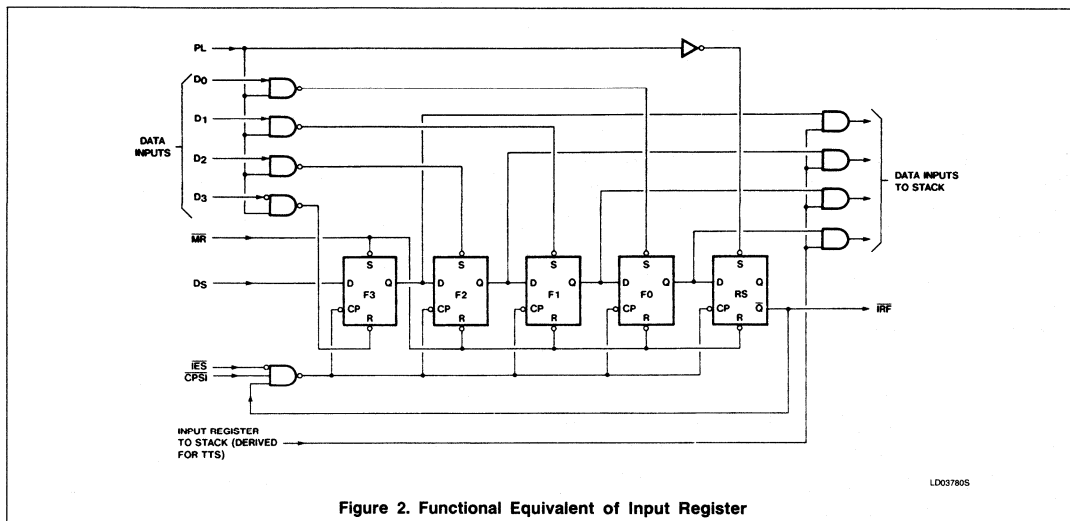

Figure 2. Functional Equivalent of Input Register
Data can be entered serially or, using the parallel mode of operation, data is entered in 4-bit increments. In either case, the data is subsequently transferred to the fall-through stack; the functional equivalent of this register is shown in Figure 2. The Input Register Full (IRF) status signal is internally generated by the Register Status (RS) flip-flop; when initialized, the Q output of this flip-flop is high.
When PL is high and CPSI is low (Figure 2), flip-flops F0 – F3 are loaded with data and IRF is forced low. This condition remains until current data is transferred to the stack. Once the data is transferred, IRF is driven high and new data can again be clocked into the input flip-flops. If parallel expansion is not being implemented, IES must be low to establish row mastership — refer to discussion of parallel expansion.
As shown in Figure 2, the outputs of F0 – F3 are applied to the stack under control of a signal derived from TTS. When TTS is low, an attempt to initiate a fall-through action is made. If the top location of stack is empty, data is loaded and the input register is re-initialized provided PL is low. Note that initialization is postponed until PL is again low. Thus, automatic FIFO action is achieved by connecting the TTS input to the IRF output.
The RS flip-flop (Figure 2) records the fact that data has been transferred to the stack; this flip-flop is not cleared until PL goes low. Therefore, if a particular data word is transferred to the stack and falls to the second location before PL goes low, the same word will not be re-transferred even though IRF and TTS are still low. Once data enters the stack, "fall-through" is automatic; a delay is